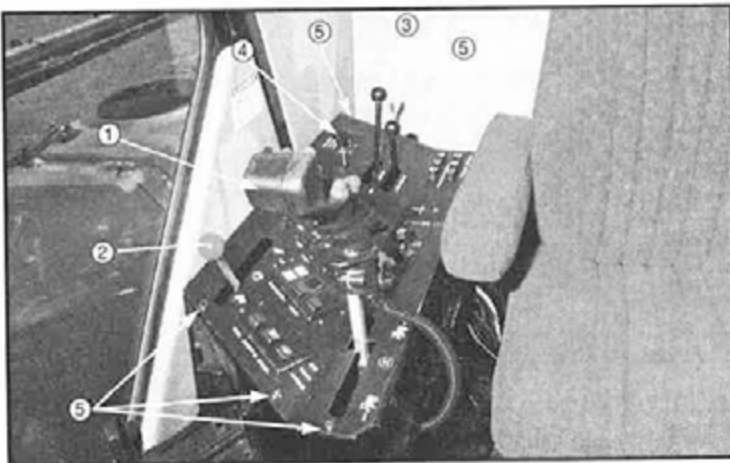

FIG 8.44
To access the circuit breakers remove the hydrostatic handle (fig. 8.44, item 1), engine throt-
tle knob (fig. 8.44, item 2), VFC lever knobs (fig. 8.44, item 3), four wheel drive knob (fig. 8.44, item 4), and panel screws (fig. 8.44, item 5). The circuit breakers are located toward the rear of the console. If a circuit breaker does not reset and continues to trip, determine the cause and correct it.